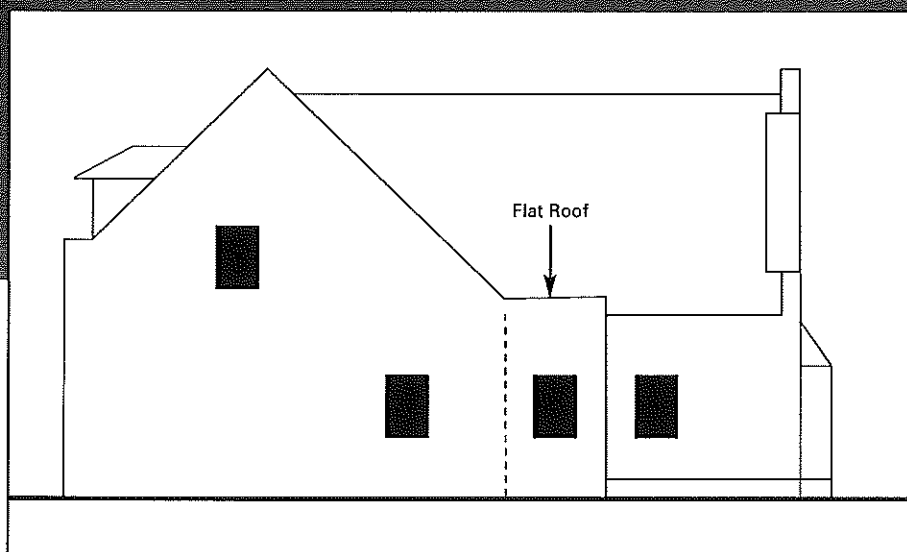

Figure 12 FLAT ROOF - Integrated at rear
- ◆ creating an incidental and well integrated element to the rear (max. 6 sq. metres). (Figure 12)